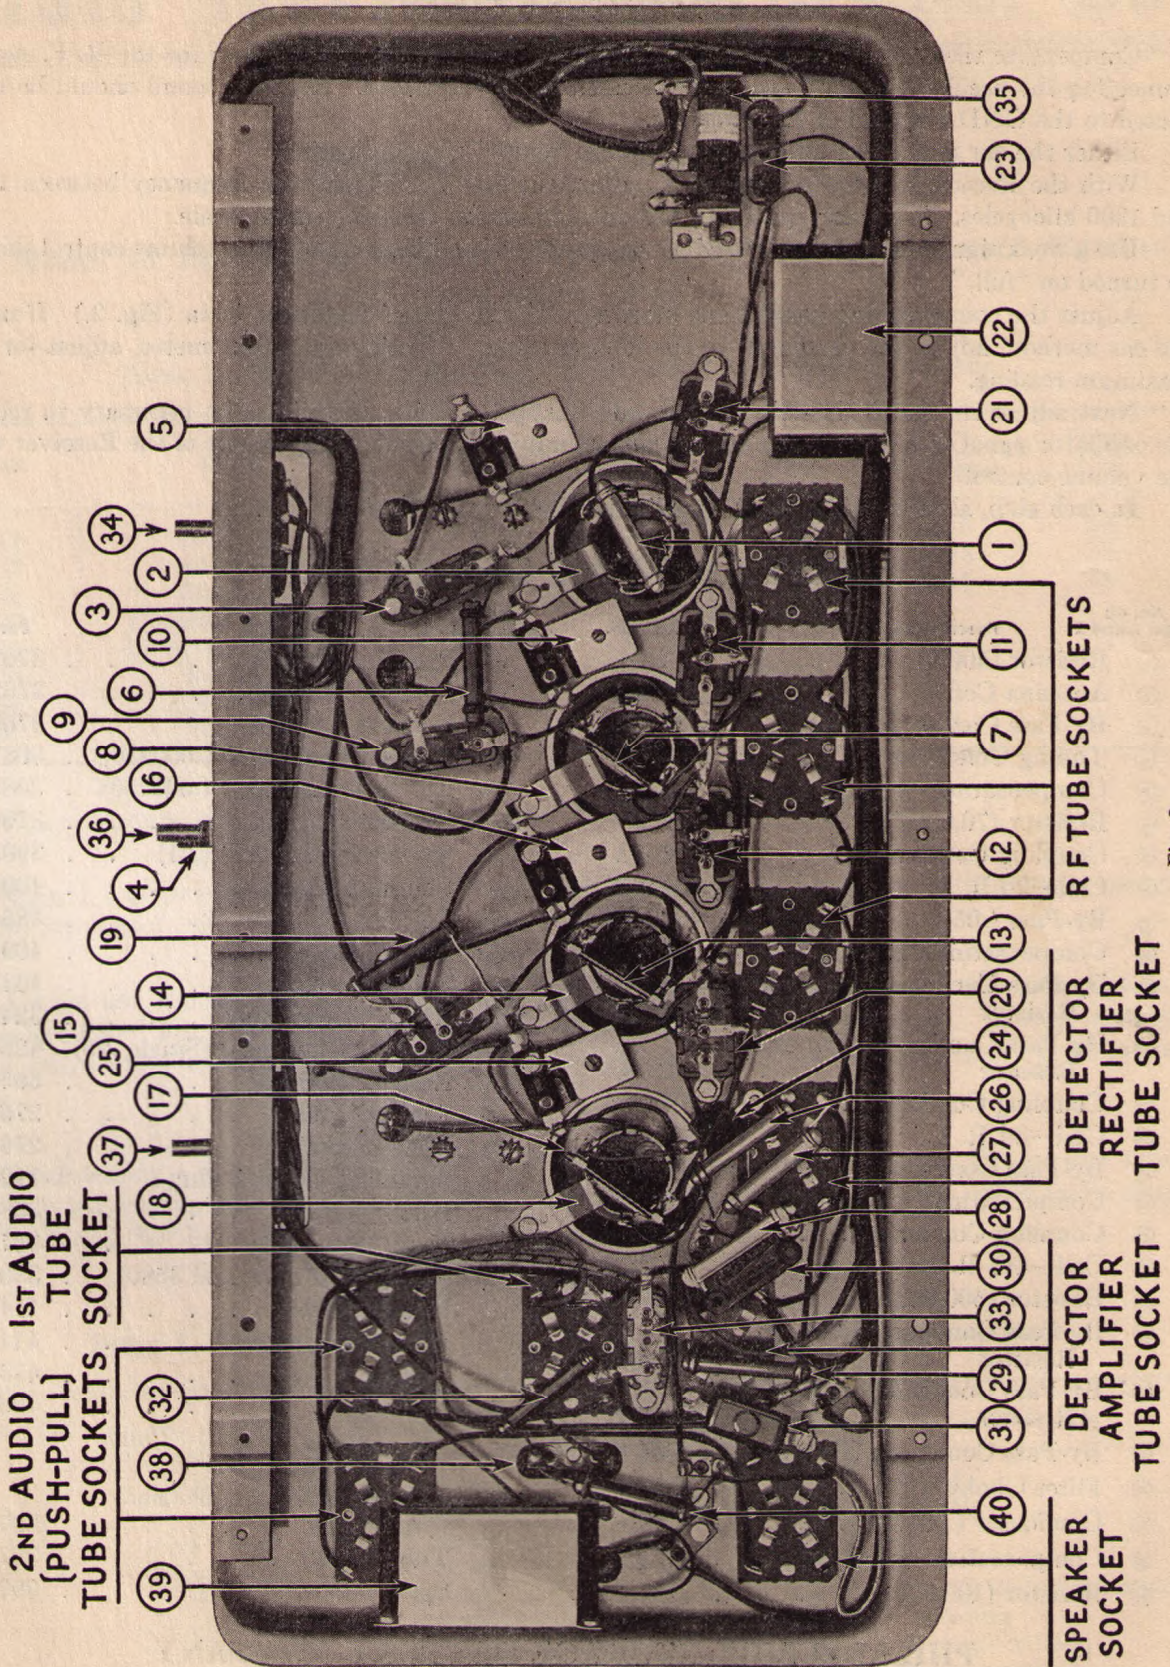

Fig. 2
Adjust the compensating condensers, starting with the fourth condenser ⑳ in (Fig. 2.) If using the ear method, adjust the condenser to the loudest signal. If using an output meter, adjust for the maximum reading.